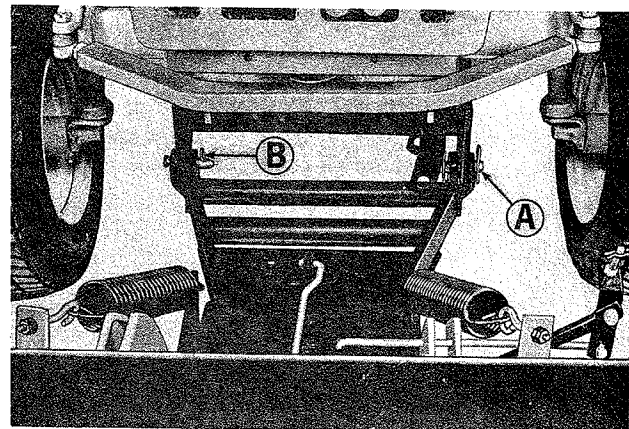

Figure 4. Snow plow and dozer blade attached to hitch.
3. See figure 4. Attach the snow plow and dozer blade to the hitch assembly as shown using two pins (A) and spring clips (B).
6. See figure 4. Remove the two spring clips (B), and pins (A). The tractor can be backed away from the snow plow and dozer blade and used with another front mounted attachment, such as the snow thrower, or for jobs not requiring full ground clearance. If the tractor is to be used for jobs requiring full ground clearance, or with a mid-mounted attachment perform step 7.
See figure 4. Place a coating of grease on the pins on (A) and (B) to help reduce wear.